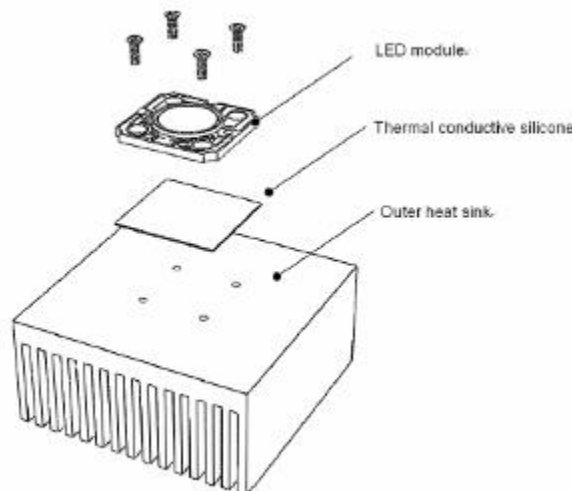

Figure 1
4. Recommended Assembly Method is shown in Figure 1, COB 40W products must be used in conjunction with heat-sinking devices and a thin layer of thermal grease should be applied to the bottom surface of the LED source